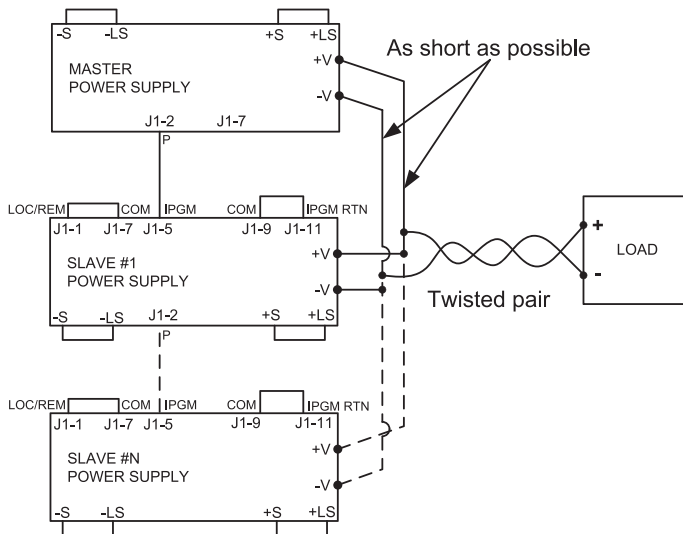
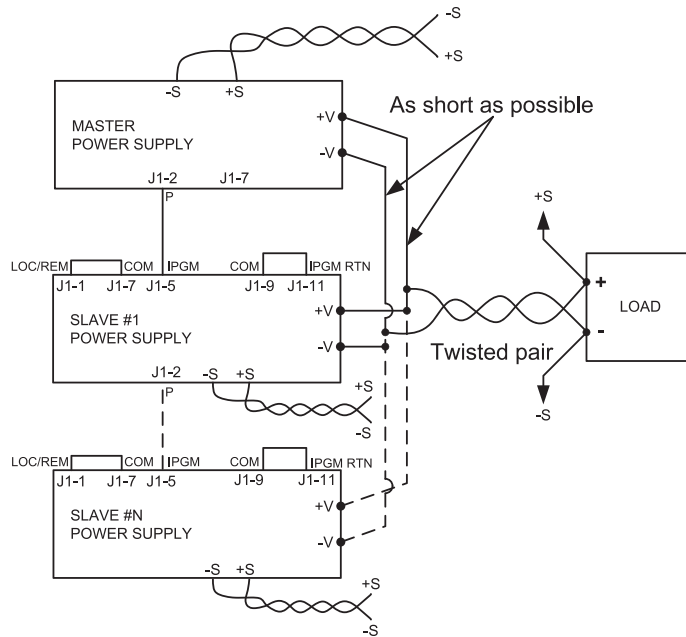

Fig.5-4: Parallel connection with local sensing
Fig.5-5: Parallel operation with remote sensing
During operation, the master unit operates in CV mode, regulating the load voltage at the programmed output voltage. Connect the sensing circuit to local or remote sensing as shown in Fig.5-4 or Fig.5-5. Front Panel Main Menu Parallel mode is "H1" as default.
6. For wiring instructions, refer to Fig.5-4: Parallel connection with local sensing or Fig.5-5: Parallel connection with remote sensing.
In parallel operation, power supplies can be connected in local or remote sensing. Refer to Fig.5-4 and 5-5 for typical connections of parallel power supplies. The figures show connection of two units, however the same connection method applies for up to 6 units.
During operation, the master unit operates in CV mode, regulating the load voltage at the programmed output voltage. Connect the sensing circuit to local or remote sensing as shown in Fig.5-4 or Fig.5-5.
6. For wiring instructions, refer to Fig.5-4: Parallel connection with local sensing or Fig.5-5: Parallel connection with remote sensing and Section 5.6: Daisy-Chain connection.